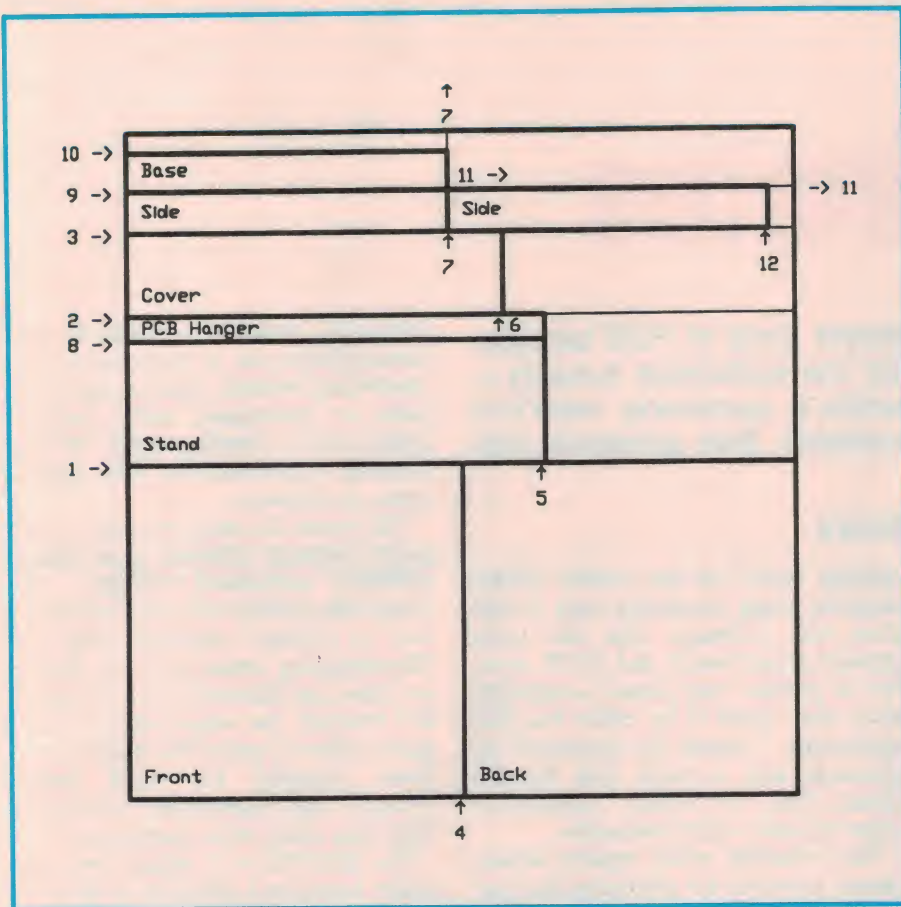

Fig.1: How to cut all of the pieces for a tank the same size as the author's, from a single sheet of glass 400mm square. The cuts are numbered in order.
stop a cut in glass half way along. Also larger pieces are easier to cut off than small bits. Mark on the drawing the order in which the cuts will be made (see Fig.1).
N.B. All of the above pieces can be cut from a single sheet of glass 400mm x 400mm – see Fig.1.